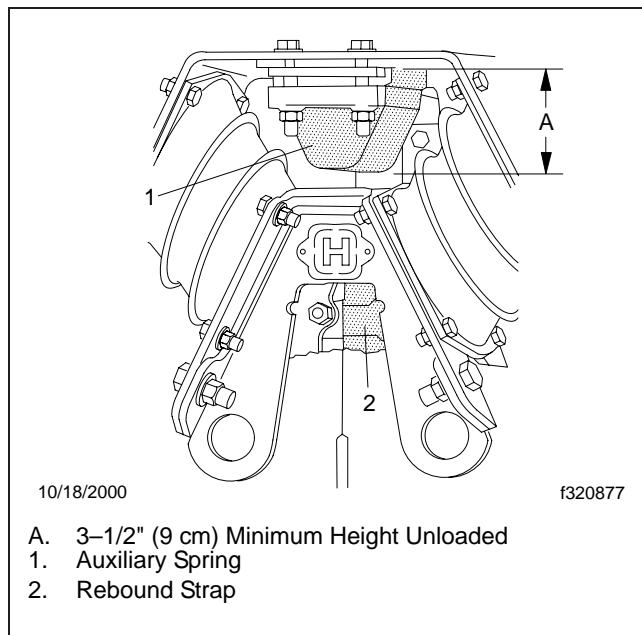

Fig. 9, Auxiliary Spring Assembly
5. Visually inspect the auxiliary spring. The normal height of an unloaded auxiliary spring is 4 inches (10 cm). Replacement is recommended when the height of the auxiliary spring decreases to 3-1/2 inches (9 cm) or below. See **Fig. 9**.